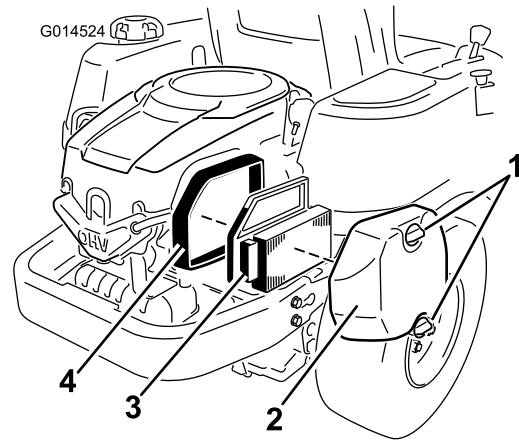

Figure 27
- Remove the air cleaner cover (Figure 27).
- Remove the air cleaner element with the integral rubber seal (Figure 27).
- Install the air cleaner element with the pleated side “out” and seat the rubber seal onto the edges of the air cleaner base (Figure 27).
- Reinstall the air cleaner cover and secure with the two knobs (Figure 27).